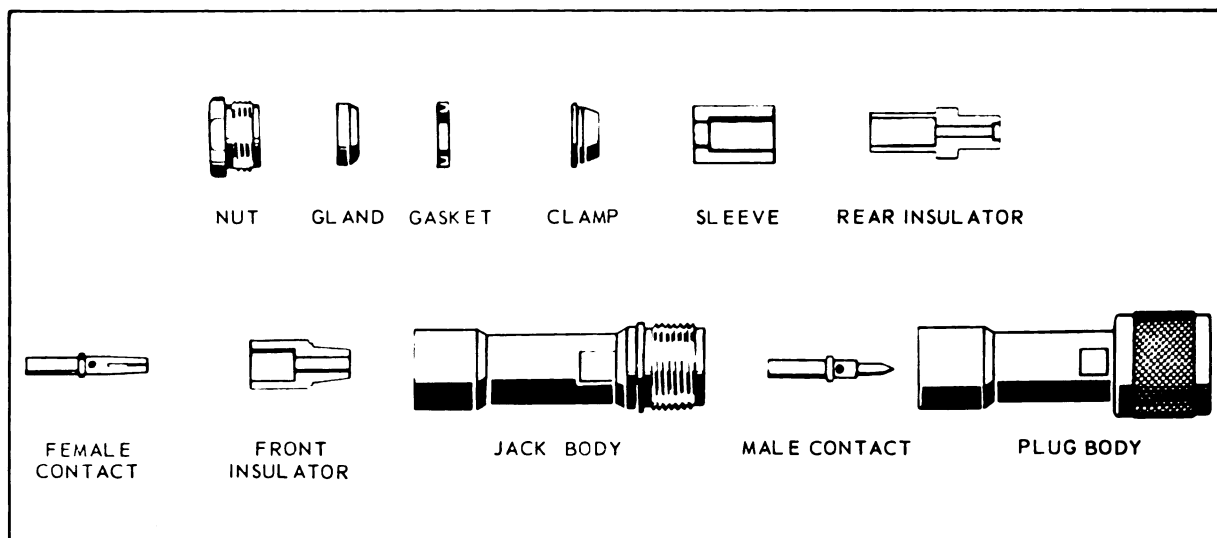

Figure 4-22. HN Connectors with Captivated Contacts - Exploded View
b. Captivated Contact Version (see figure 4-22)- consists of a plug or jack body assembled to coaxial cable with nut, gland, gasket, clamp, sleeve and front and rear insulators. Plug UG-1213/U and jack UG-1214/U are typical of this version.
a. Disassemble nut, gland, gasket, clamp, sleeve and front and rear insulators from plug or jack body. See figure 4-22.